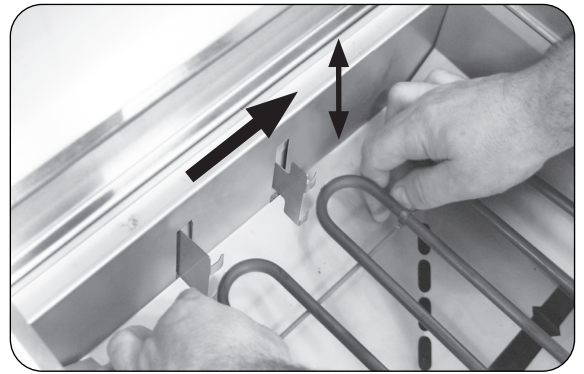

Fig. 18-1 Adjust cooking element
2. Grasp the cool cooking element, lift upwards and apply pressure towards the right of the grill. Once it clears the tab, raise or lower it to the desired height. (See Fig. 18-1.) Be sure it securely rests in position.